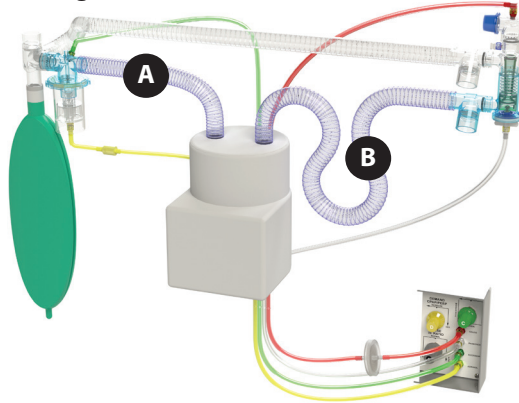
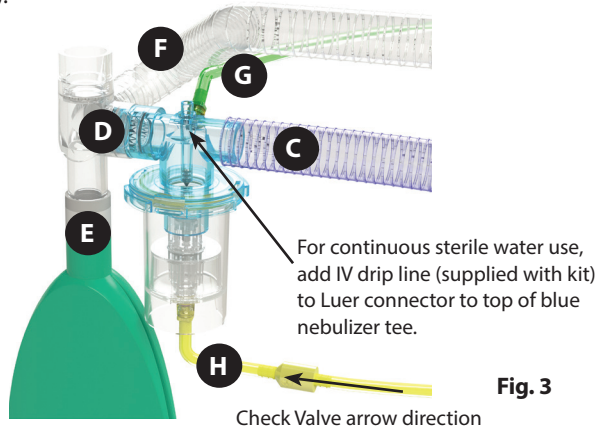

Fig. 2
Fig. 3
3. Connect nebulizer to heater chamber using unheated, fresh gas, blue corrugated tubing (see **Fig. 2, A** and **Fig. 3, C**). Connect blue heated-wire tubing to heater (**Fig. 2, B**).
4. Insert 4-way manifold 22 mm port into nebulizer with flapper gate placed upright (**Fig. 3, D**).
5. Install 3 L anesthesia bag 15 mm onto manifold (**Fig. 3, E**). Optional 0.5 L bag is included for NICU patients if preferred by hospital protocol.
6. Connect white, expiratory, corrugated heated-wire limb to side of manifold (**Fig. 3, F**).
7. Connect green tubing quick-connect fitting to nebulizer top tee at 45 degrees (**Fig. 3, G**).
8. Connect yellow tubing quick-connect fitting to bottom of nebulizer bowl (**Fig. 3, H**).
It is suggested for optimal humidification delivery to set heater at 40°C and maintain patency of blue heated-wire tubing (**Fig. 2, B**) by draining at regular intervals.